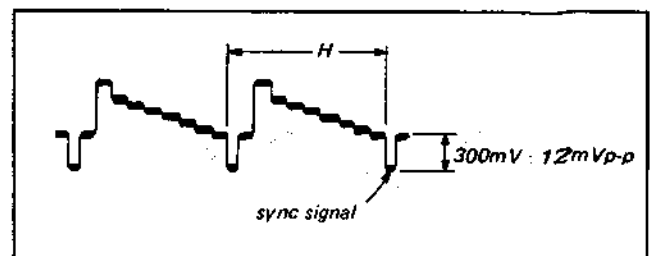

Fig. 4-4-14. Sync AGC adjustment
- (1) Supply the VTR with the colour bar signal and set up the E-E mode.
- (2) Connect the oscilloscope to pin 24 of IC1.
- (3) Adjust RV7 so that the sync signal level is 300 mV \pm 12 mVp-p. (See Fig. 4-4-14.)